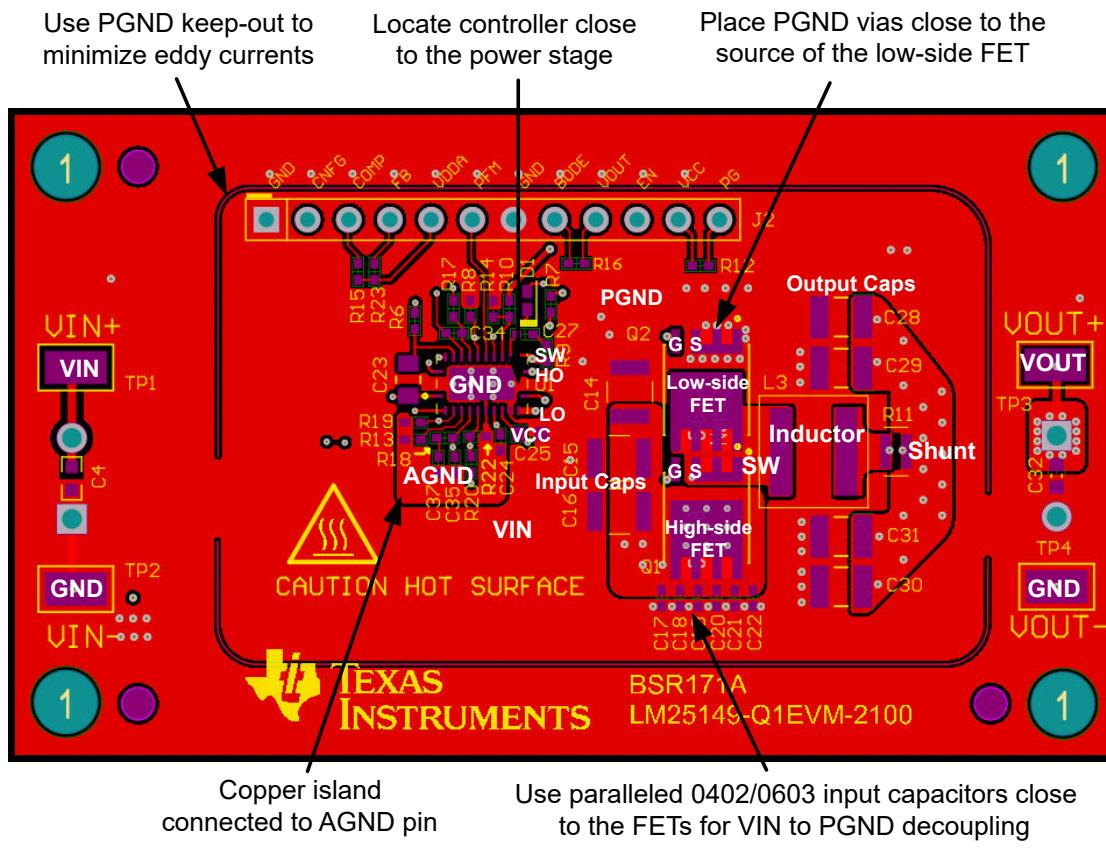

図 9-36. PCB Top Layer – High Density, Single-sided Design
図 9-36 shows a single-sided layout of a synchronous buck regulator with discrete power MOSFETs, Q1 and Q2, in SON 5-mm × 6-mm case size. The power stage is surrounded by a GND pad geometry to connect an EMI shield if needed. The design uses layer 2 of the PCB as a power-loop return path directly underneath the top layer to create a low-area switching power loop of approximately 2 mm2. This loop area, and hence parasitic inductance, must be as small as possible to minimize EMI as well as switch-node voltage overshoot and ringing.
- Make the ground connections to the LM25148 controller as shown in 図 9-36. Create a power ground directly connected to all high-power components and an analog ground plane for sensitive analog components. The analog ground plane for AGND and power ground plane for PGND must be connected at a single point directly under the IC – at the die attach pad (DAP).